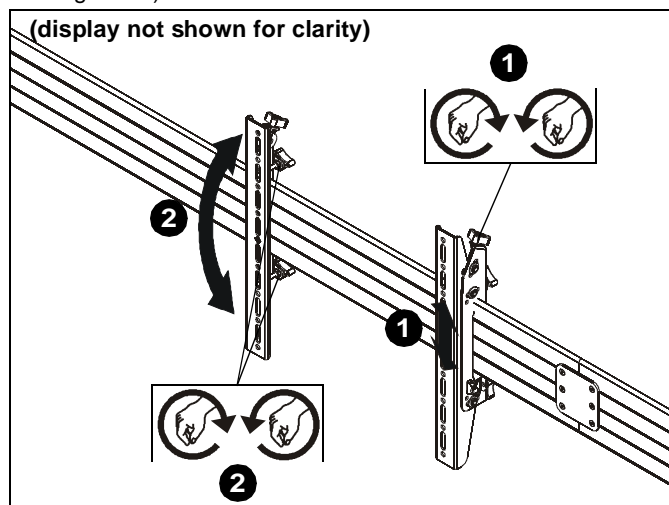

Figure 11
1. Use upper knob on back of interface brackets (A and B) to adjust the height of each display. (See Figure 11)
2. Use middle and lower knobs on back of interface brackets (A and B) to make plumb adjustments to each display (See Figure 11)